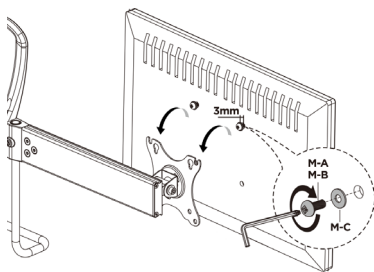

Figure 14
1. Using the appropriate monitor mounting screws (x2 of x8), **Washers (2x of x8)** and the **5mm Hex Key with Screwdriver**, carefully drive each of the monitor mounting screws through each of the **Washers** and partially into the top two mounting holes on one of the monitor's VESA mount, leaving 3mm of the mounting screws exposed. Then, hang the exposed portion of monitor mounting screws (between the **Washer** and the monitor) on the appropriate VESA mounting pattern on the **VESA Mount Assembly**. As shown in Figure 14.